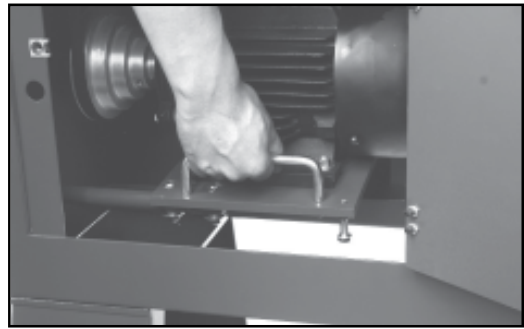

Fig.38
- 3.) Loosen the motor plate and lift motor to take tension off belt. (See Fig.38)